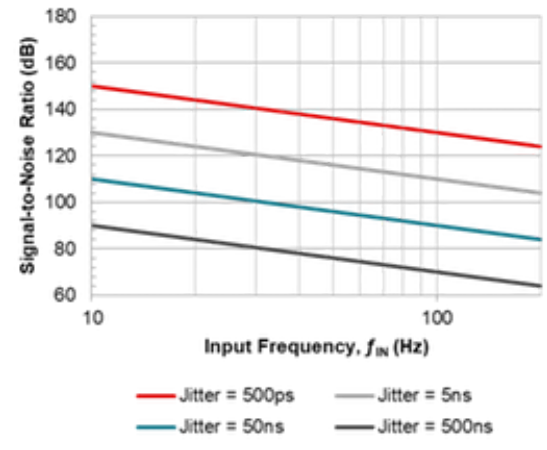

Figure 2. SNR plots for oversampling ADCs (a); and other ADCs (b)
To visualize the performance difference between an ADC with oversampling and one without, Figure 2 plots Equations 1 and 2 as a function of input signal frequency and jitter. Each plot includes curves for four different clock jitter specifications (0.5 ns, 5 ns, 50 ns and 500 ns). Figure 2a represents the SNR for an oversampling ADC, while Figure 2b represents the SNR for an ADC without an oversampled architecture.
For example, the evaluation module (EVM) for the Texas Instruments (TI) ADS127L01, a 512-kSPS, 24-bit delta-sigma ADC, uses the Abracon ASEMB-16.000MHZ-XY-T low-jitter oscillator. This oscillator offers a typical period jitter specification of 5 ps, far lower than any of the jitter specifications plotted in Figure 2. However, if you consider the cost vs. performance trade-off for low-jitter oscillators, you might wonder if this choice is necessary or simply overkill.
Another key takeaway from both Table 1 and Figure 2 is that increasing the OSR (which is equivalent to slowing down the ADC's output data rate) improves the SNR performance even further. In general, systems that can support slower output data rates are measuring slower-moving input signals. These systems will experience less noise due to jitter as the slight variations in the clock edges effectively go "unnoticed."